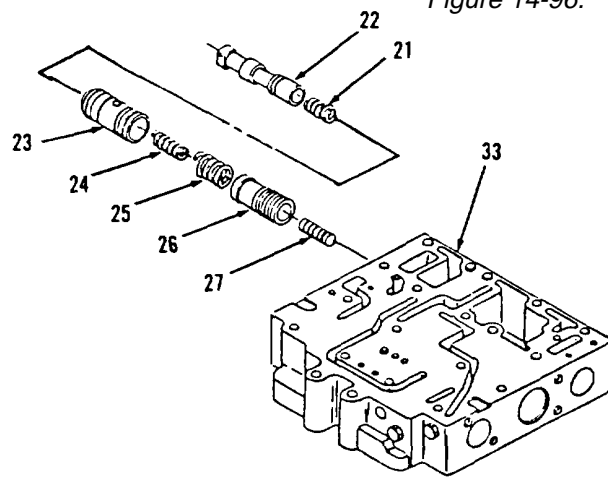
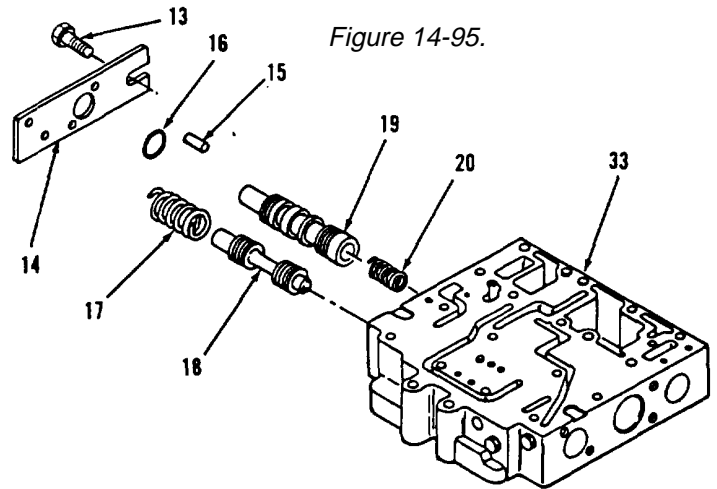

Figure 14-95.
Figure 14-98.
2. Install stop (29) and dowel (28). Dowel (28) must be installed 0.190 inch beneath face of body (33).
3. Install slug (27) in piston (26, Figure 14-95).
4. Install piston (26), springs (25 and 24), sleeve (23), spool (22) and spring (21).
5. Install spring (20) and spool (19, Figure 14-98).